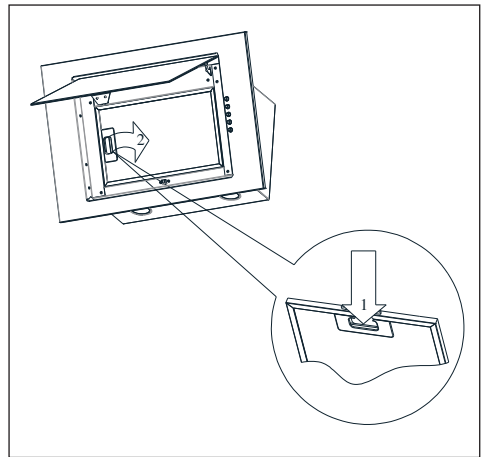

Fig.13 Aluminium fat filter removing
4. Open the hood cover and remove the fat filter (Fig.13).